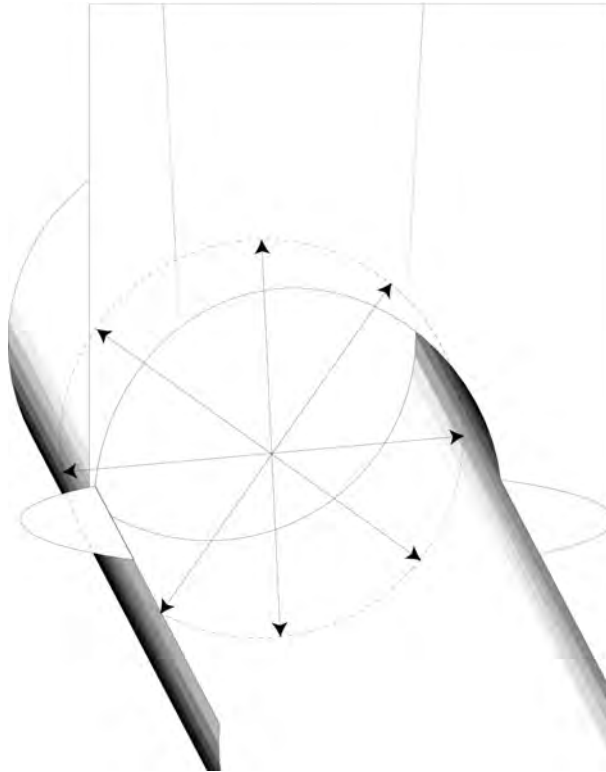

Figure 14: Pipe diameter measurement
1. Measure the inside pipe diameter (I.D.) at three locations (Figure 14). Be sure that the measurements are accurate.